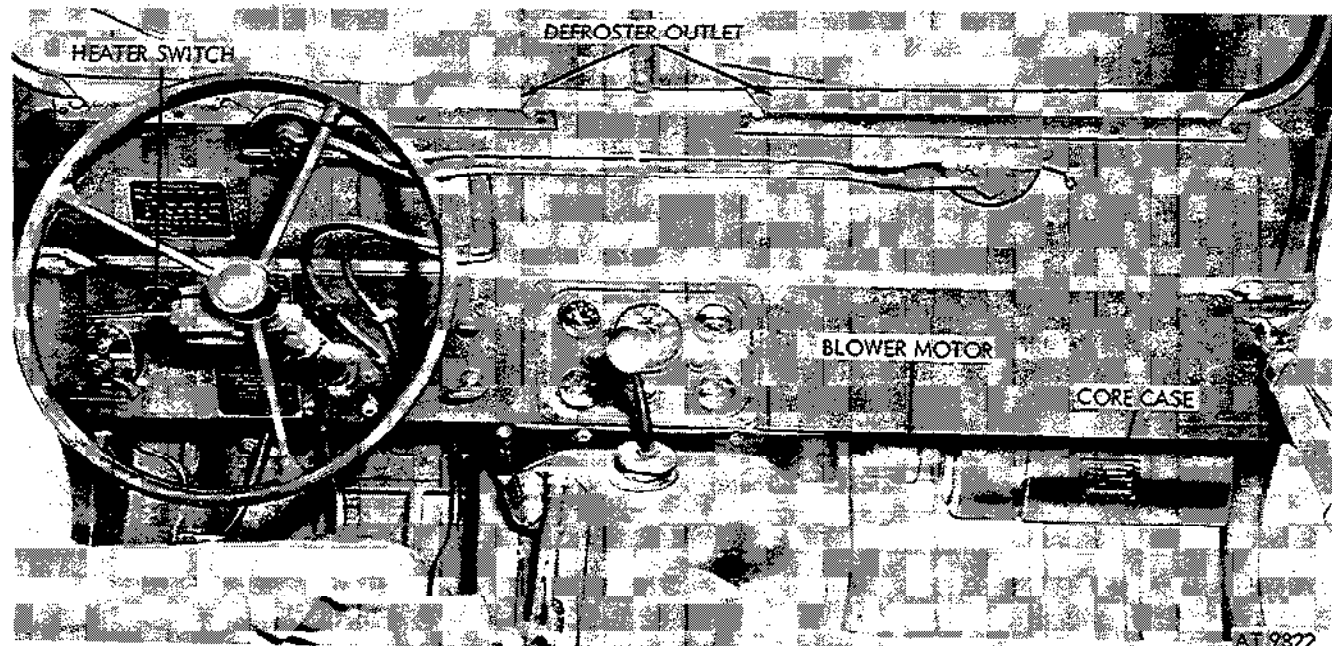

Figure 3-17. Hot water heater kit (-25°F.) installed.
b. *Hot Water Heater* (fig. 3-17). As the hot water heater obtains heat from the engine coolant, the engine temperature must be in the normal range for maximum heater output. The heater is connected to the engine cooling system by suitable fittings and hoses and is mounted under the dash panel below
a. Operate all controls. Refer to TM 9-2320-218-10 and figure 3-17.
a. *Removal.* Refer to figures 3-17 and 3-18.
(1) Remove three diverter box-to-heater retaining screws and lockwashers.
(2) Remove diverter box from heater.
(3) Remove right defroster hose elbow from nozzle flange and diverter.
(4) Disconnect duct from diverter.
b. *Installation.* Refer to figures 3-17 and 3-18.
(1) Connect hot air duct to diverter opening (driver side), and right defroster hose elbow to right side opening and nozzle flange.
(2) Position diverter box to heater outlet; insert three screws and lockwashers.